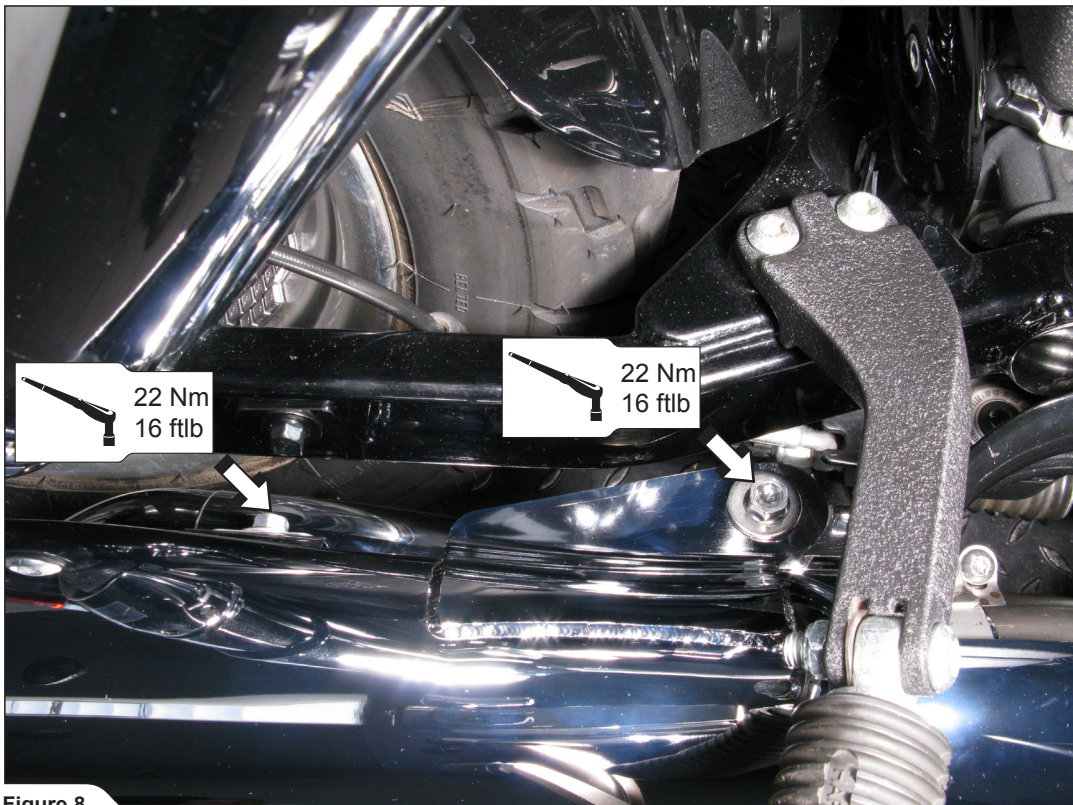

Figure 8
3. Align the mufflers in respect to the motorcycle, tighten the TOP muffler onto the original bracket (using M8x50 bolt, washers and nut from Akrapovič installation kit), then tighten the mufflers' connection (using M8x12 bolt and washer from Akrapovič installation kit) (Figure 8).